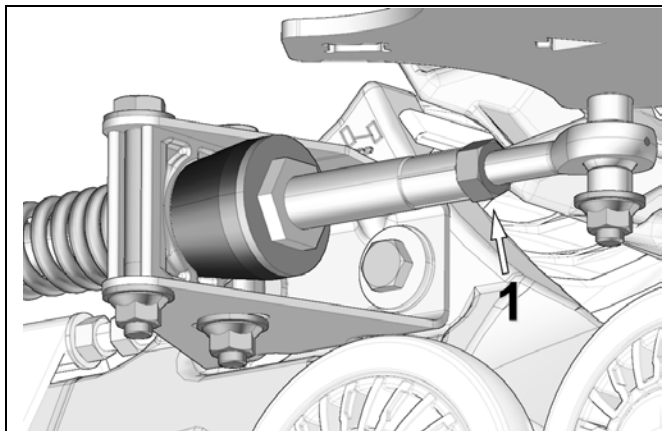

Figure 14
- Re-tighten jam nut (1) when adjustment is complete. See Figure 14.